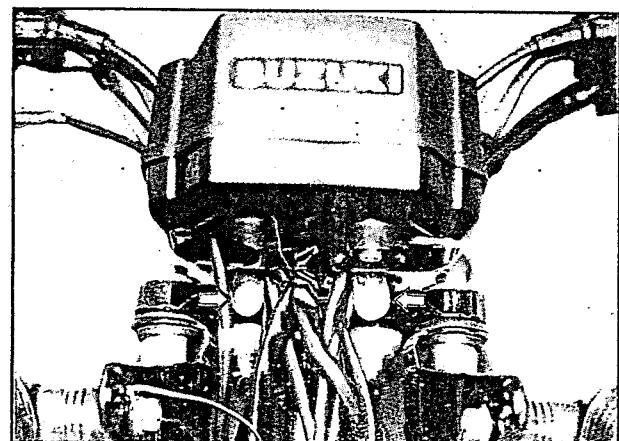

Fig 6.43
- Remove the instrument panel bolts, (2 nos) (fig 6.43)